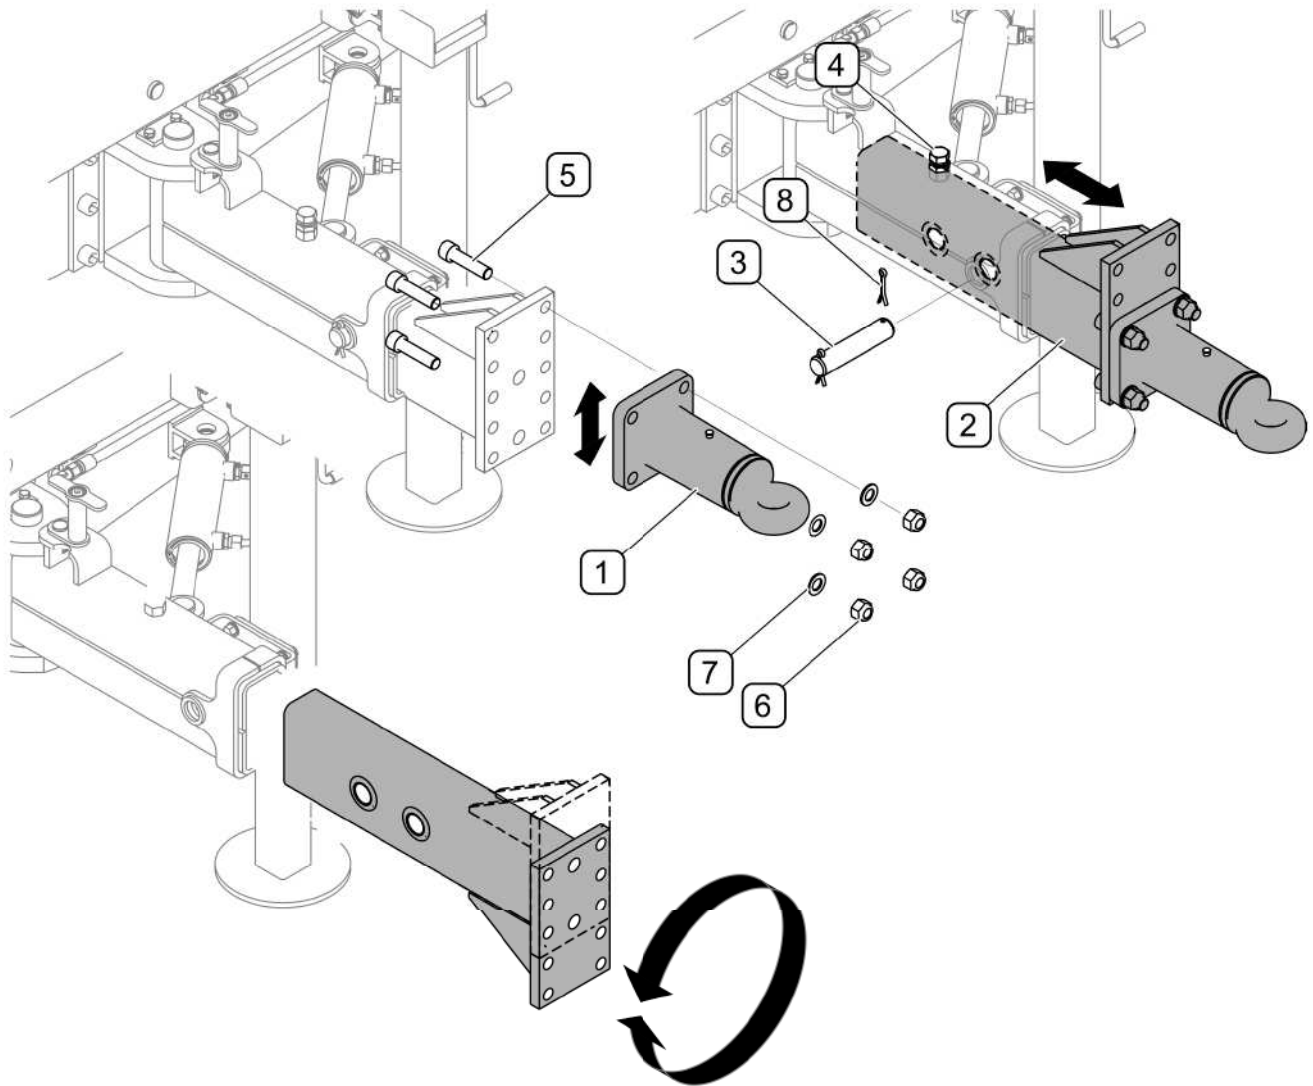

FIG. 4.1 Adjustment of sweeper hitch
For optimum operation, the sweeper's frame should be positioned horizontally during operation. To do this, the machine's drawbar should be positioned properly. In order to change the height of sweeper drawbar (FIG. 4.1), change the drawbar eye (1) fixing holes. In order to change the hitch length, loosen press bolt (4), take out pin (3), slide in or slide out drawbar (2) and relock the drawbar with press bolt (4) and pin (3).